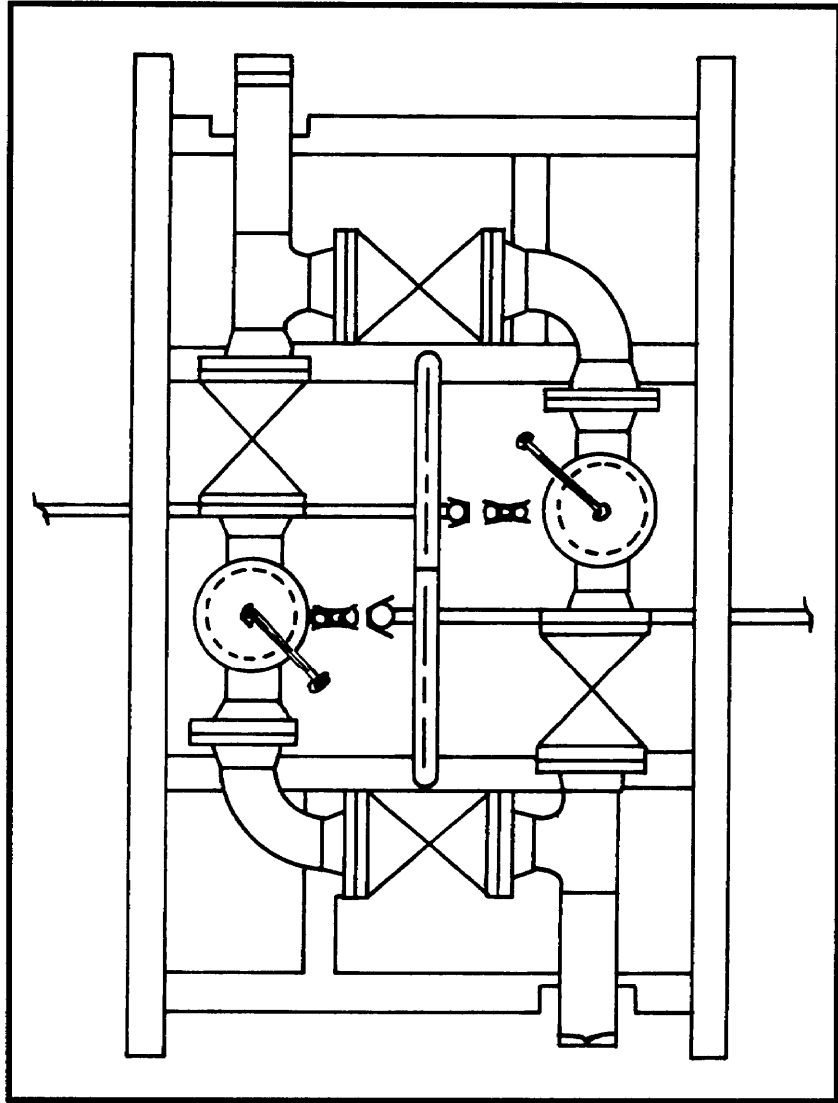

Figure 2-14. Strainer assembly
(12) Pipeline Strainer Assembly. This assembly consists of skid-mounted dual strainers and associated valves and piping (Figure 2-14). The assembly is supplied with the IPDS for installation in the pipeline pumping stations upstream of the pumps. The strainers collect dirt, sand, or other debris that may be in the system to protect the multistage pumps. The dual strainer installation allows for continuous protection even if one strainer is being cleaned or repaired. The 6-inch pipe ends on the unit can be coupled to the 6-inch IPDS piping system.